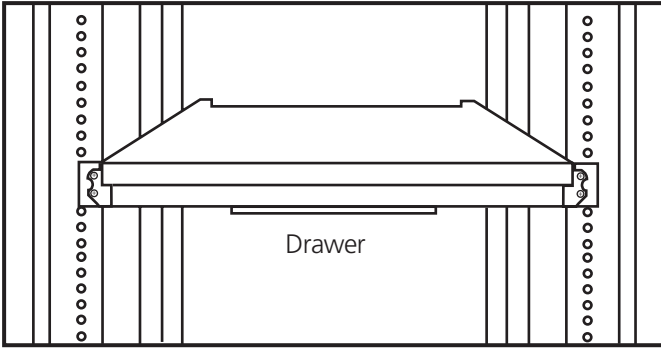

Figure 3-11. Sliding the drawer out.
- Slide out the drawer and then remove the four safety stoppers from the left and right sides of the KVM Tray in sequence. See Figures 3-11 and 3-12.